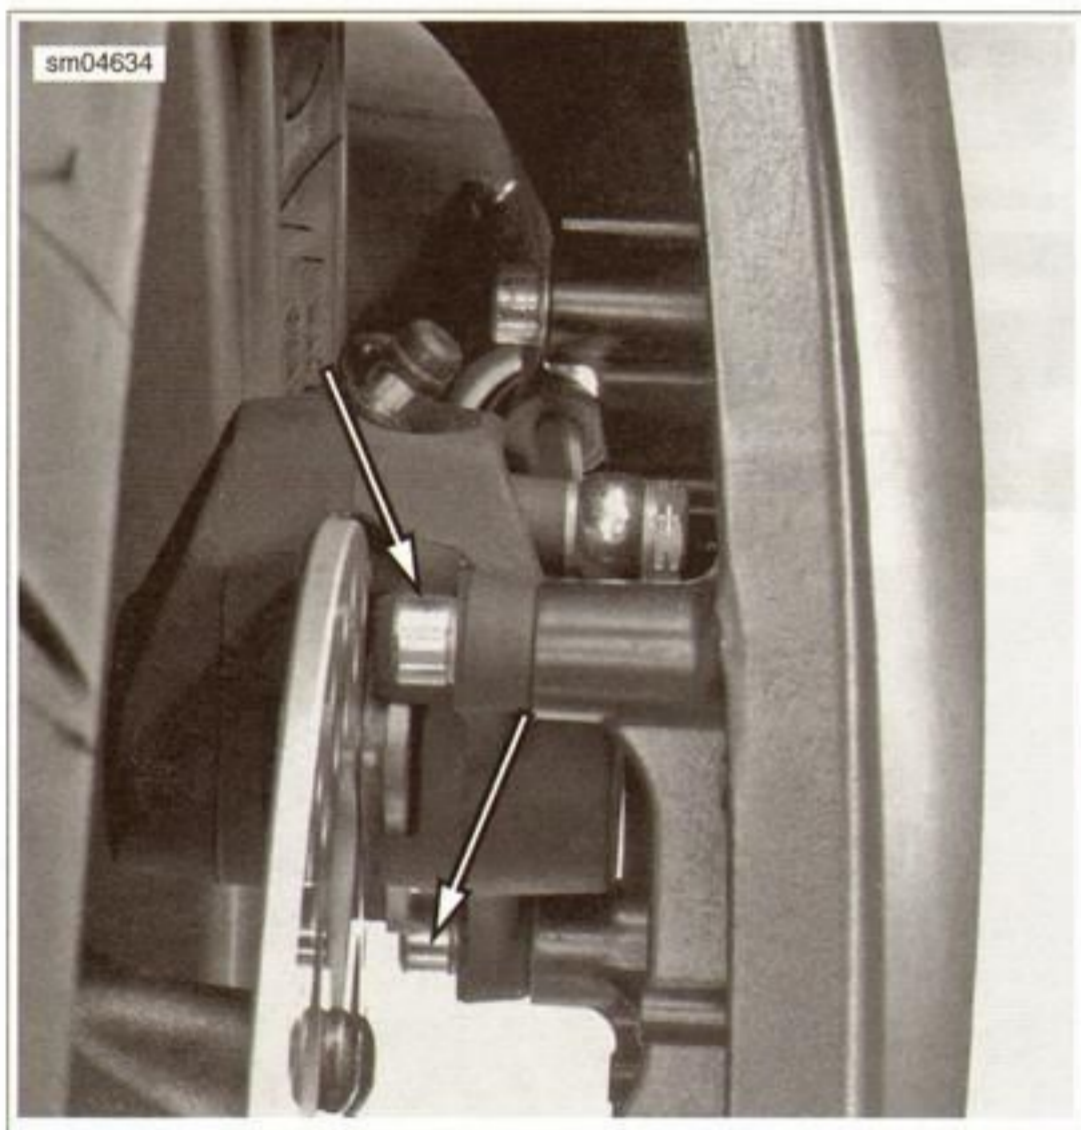

Figure 2-79. Rear Brake Caliper Fasteners
4. See Figure 2-79. Remove caliper mounting fasteners through access holes in rotor.